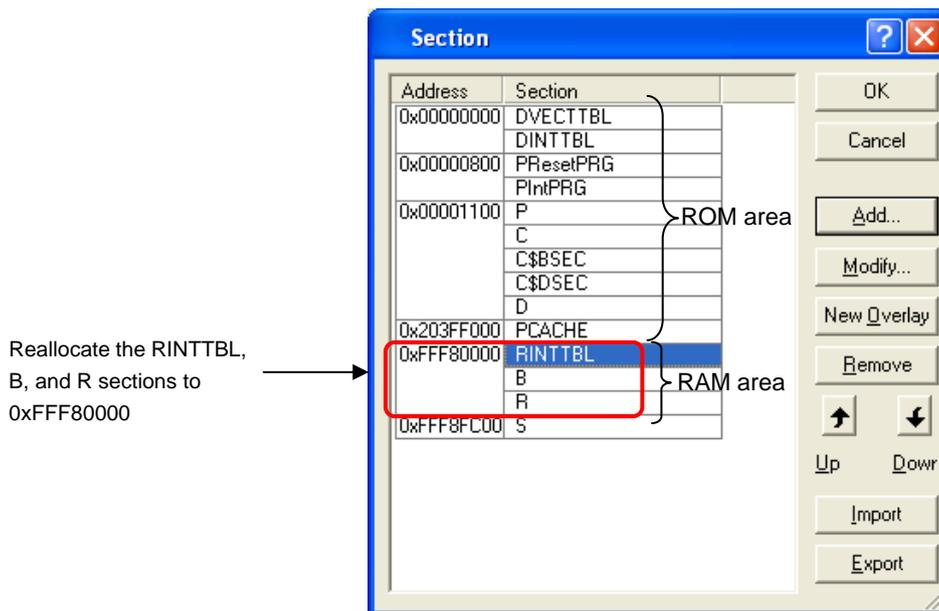

Figure 5.3.19 Change Section (1/3)
(1) Set the RINTTBL section to the internal RAM area in [Section] dialog box as shown in Figure 5.3.19.